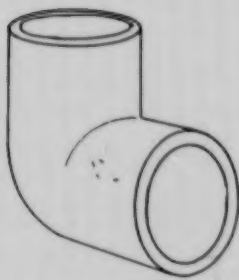

Fig. 1. 90° ell, pipe to pipe (Courtesy NIBCO Inc.)
(1) **Flow volume.** Both current needs and future needs should be considered when planning a piping system. The pipe should be large enough to carry the volume of air required at peak periods of use. Since most businesses grow with time, the system should be designed to handle the added load. One method of increasing the volume of air available is to design the system in the shape of a loop (fig. 1). This permits air to flow in two directions to the point of greatest use.